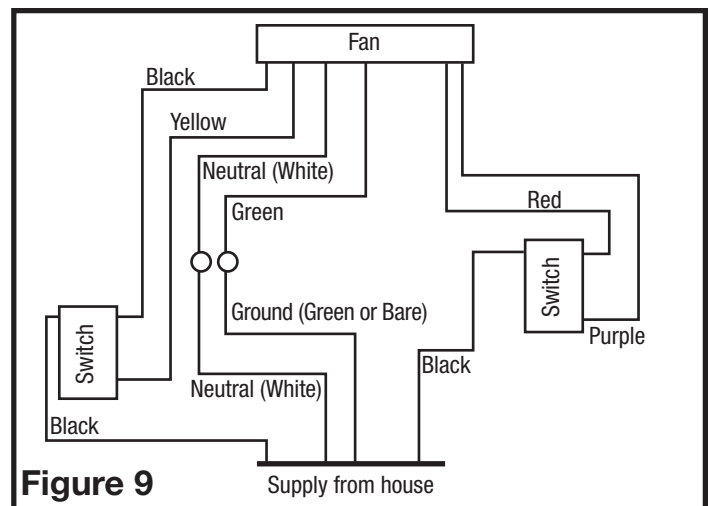

Figure 9
- 3c. **Wiring the Lights:** Using a properly grounded standard wall switch, connect the black wire from the supply to one side of the switch. Connect the Red wire (light) from the fan housing to one of the terminals on the switch. Connect the Purple wire (night light) from the fan housing to a separate terminal on the switch (**Figure 9**). Use approved methods for all connections.